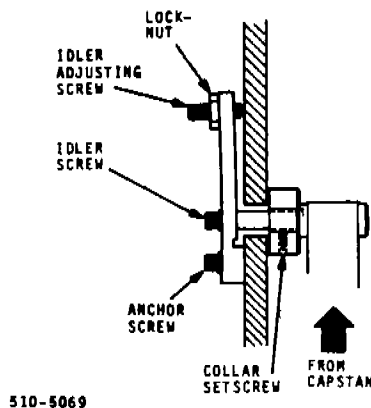

Figure 4-6. Idler Adjustment
- a. Loosen locknut on idler adjusting screw (see Figure 4-6).